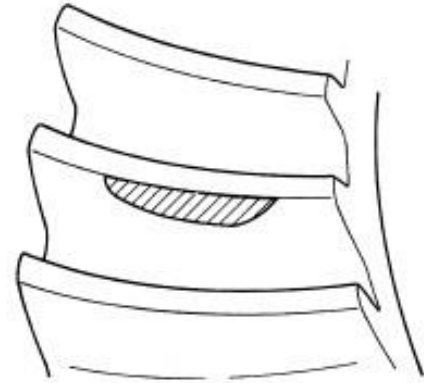

Figure 42
- The pinion gear is set too low. Increase the pinion gear height, by increasing the pinion depth shim thickness (Figure 42).